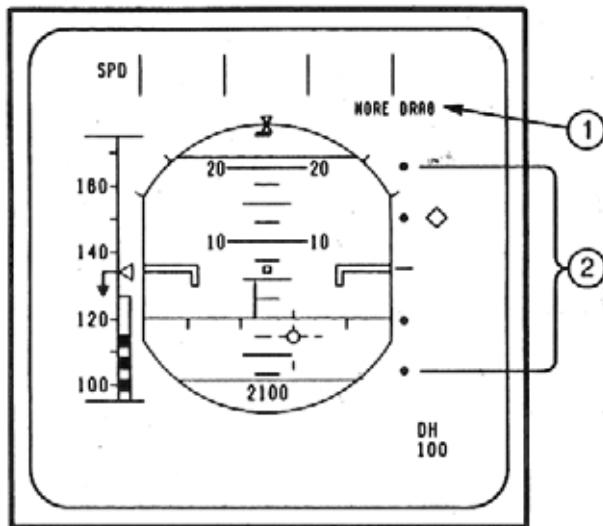

Figure 2-119
Above Path - The FMC commands the AP/FD to increase the vertical rate until the vertical profile is recaptured. This is accomplished by accelerating to the target descent speed + 20 kts., or 290 KIAS, whichever is higher, and increasing the vertical rate in an attempt to reintercept the descent path. If the aircraft is still above the descent path when this speed is reached, the message, "MORE DRAG", is displayed on the PFD (1, Figure 2-119). "MORE DRAG", indicates an over-speed condition exists and speedbrakes are required to maintain the existing speed schedule. The SP message, "LESS DRAG", directly associated with the deployment of the speedbrakes, indicates an under-speed condition exists as a result of the target speed decreasing 10 kts. below target.
Vertical deviations from the descent path are displayed on the PFD Vertical Deviation Scale (②), Figure 2-119),